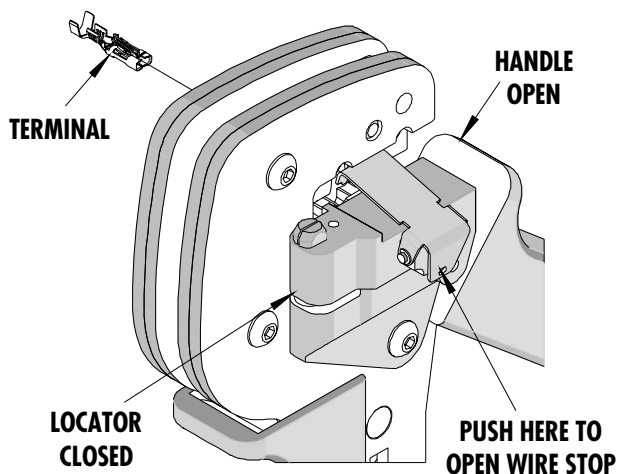

Figure 2
2. Swing the terminal locator away from the crimp tool shown in Figure 1. Some terminals with large insulation grips may interfere with the crimp tooling when swinging the locator into position. The terminal must then be loaded into the locator in the closed/crimp position. See Figure 2.